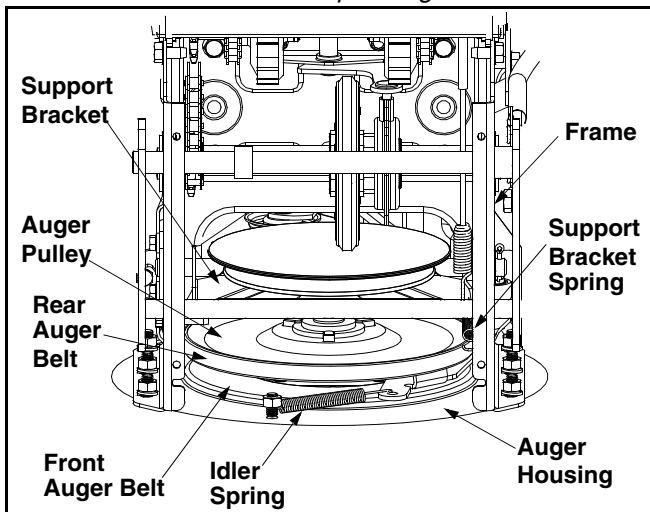

Figure 16
- Unhook the idler spring from the hex bolt on the auger housing. See Figure 16.